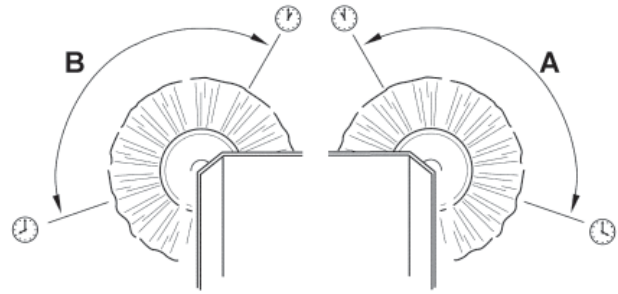
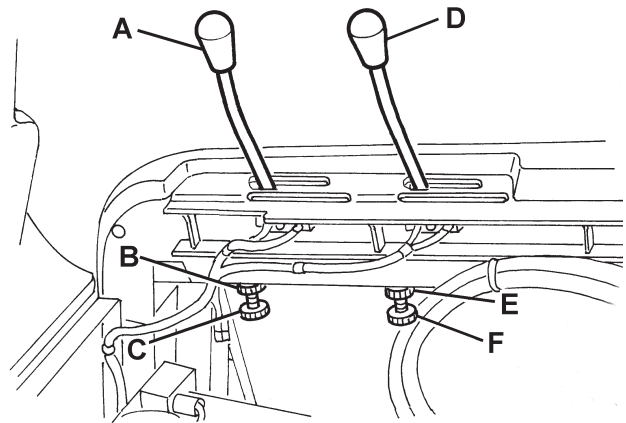

Figure 9
Figure 10
- Check that the side broom prints are as shown in the figure (A and B, Fig. 9).
2. Engage the parking brake with the pedal (82) and the lever (75).
3. Turn the ignition key (69) to "0".
4. Open the hood (23) and fasten it with the support rod (55).
5. **For the right side broom**, operate on the idle gear of the lever (A, Fig. 10), by loosening the ring nut (B) and by adjusting the adjuster (C) until the correct print (A, Fig. 9) is achieved. Then fasten the adjuster with the ring nut (B, Fig. 10).
**For the left side broom**, operate on the idle gear of the lever (D, Fig. 10), by loosening the ring nut (E) and by adjusting the adjuster (F) until the correct print (B, Fig. 9) is achieved. Then fasten the adjuster with the ring nut (E, Fig. 10).